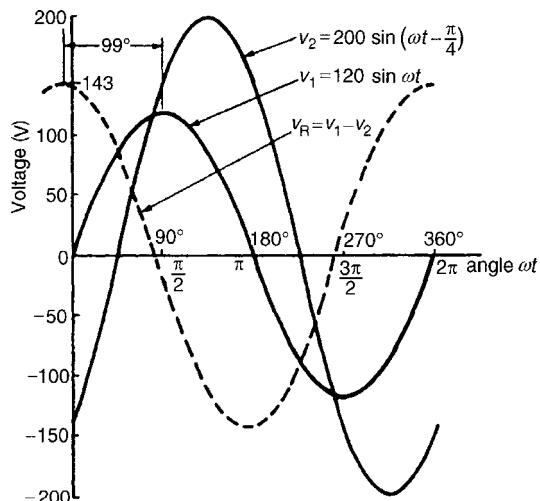

Figure 14.13
- (a)  $v_1 = 120 \sin \omega t$  and  $v_2 = 200 \sin(\omega t - \pi/4)$  are shown plotted in Fig. 14.13 Care must be taken when subtracting values of ordinates especially when at least one of the ordinates is negative. For example
The resultant waveform,  $v_R = v_1 - v_2$ , is shown by the broken line in Fig. 14.13 The maximum